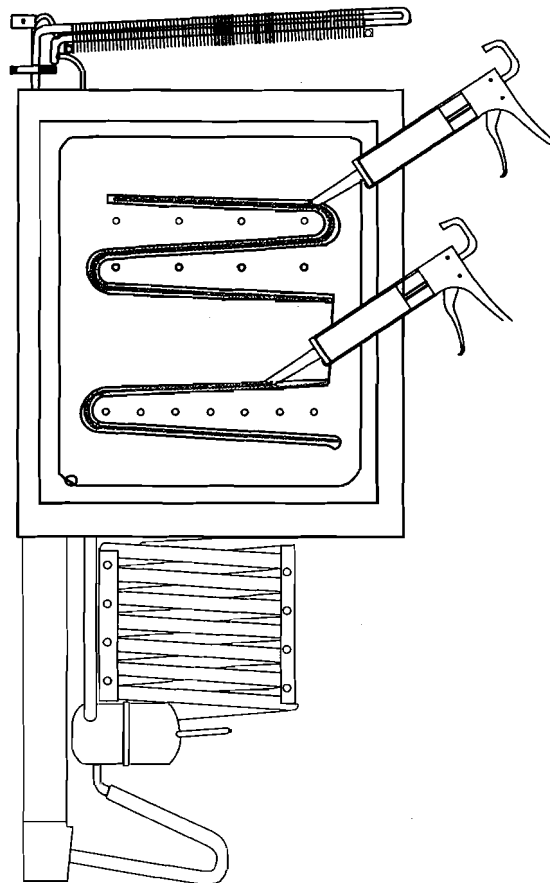

Figure 12. Thermal Mastic sealant application to heat exchanger.
Resealing requires at least three tubes of Thermal Mastic sealant. Each tube tip must be cut wide enough to dispense a 3/4 inch thick bead. See Figure 12, top.
3. Apply a 1/2 inch wide x 1/2 inch thick bead of Thermal Mastic sealant to the evaporator section of the cooling system as shown in Figure 12.